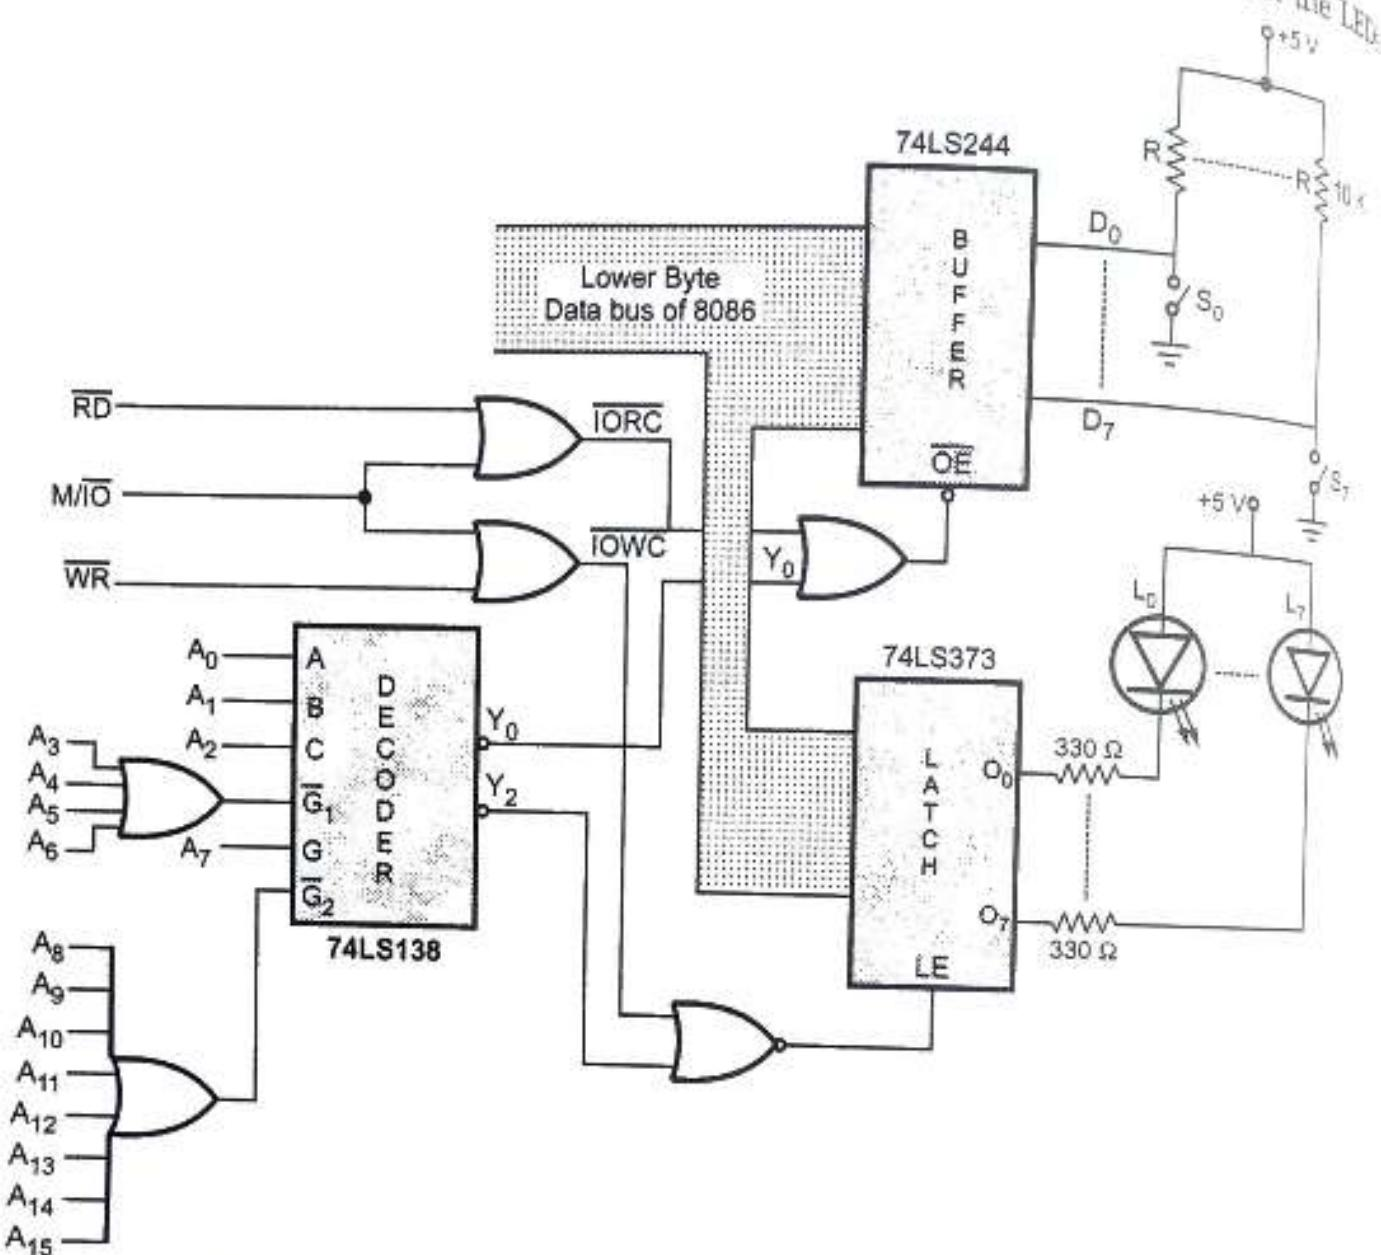

Fig. 3.1.8 Interfacing of 8-bit input port (buffer) and 8-bit output port (latch)
- Fig. 3.1.8 shows the interfacing of 8-bit input port (buffer) and 8-bit output port (latch) having 16-bit address. The address of input port is 0080H and address of output port is 0082H.
- Refer Fig. 3.1.8 and write a program to display the status of switches on the LED.